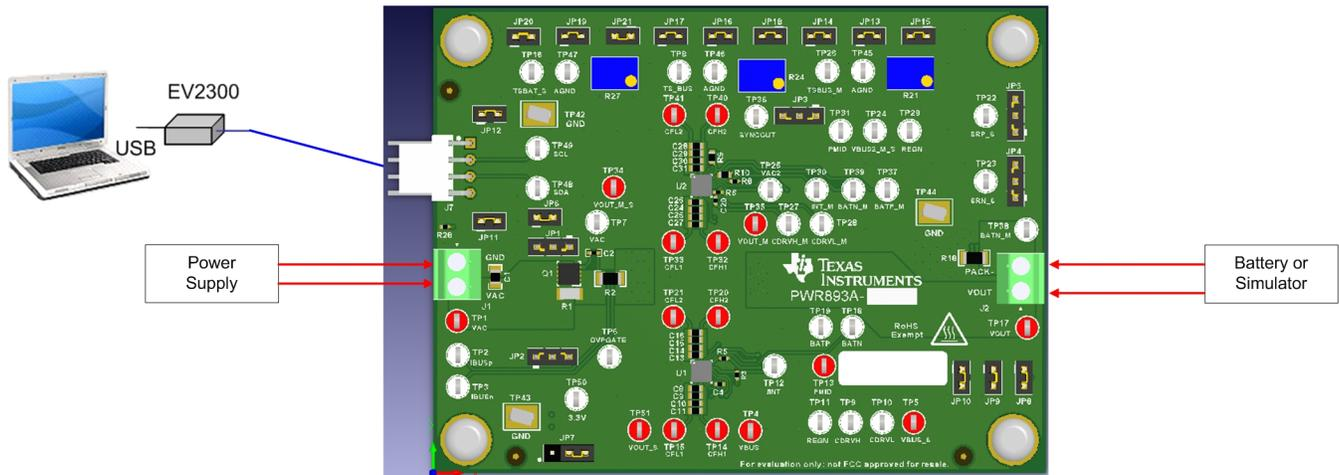

Figure 1. Test Setup for BQ25970
2. Connect the output of PS to J1 (VAC and GND) as shown in Figure 1.
3. Turn on the battery simulator, set to constant voltage mode and output to 3.6 V. Turn off (disable) the load. Connect load to J2 (VOUT and GND) as shown in Figure 1.